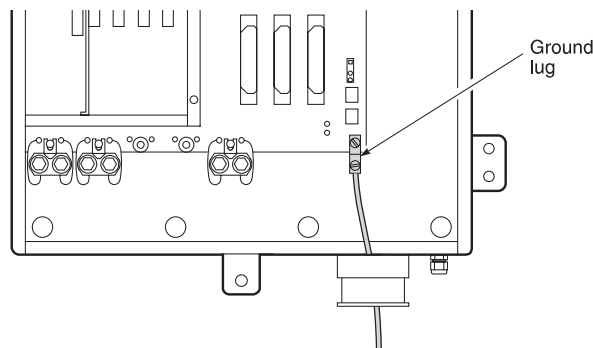

Figure 3. Installing the Ground
Install the chassis ground (Figure 3).
- 1 Route the chassis ground wire through the small hole in the strain relief on the bottom of the enclosure (Figure 3).